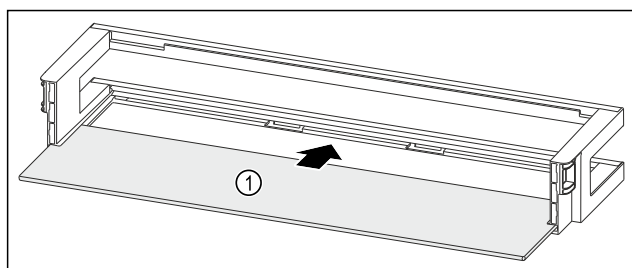

Fig. 253 Door rack with shelf
- Push the shelf Fig. 253 (1) into the side recesses.